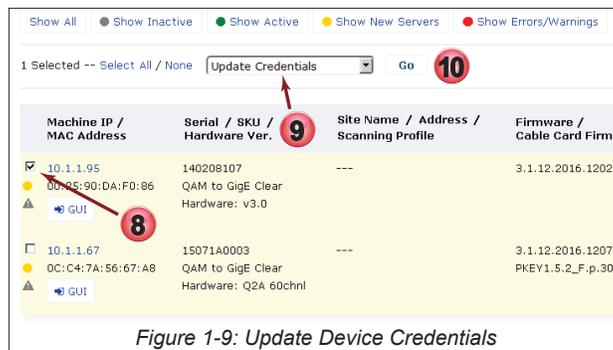

Figure 1-9: Update Device Credentials
8. To start to monitor a UCrypt Server that was added, click the tick box for that server, Figure 1-9. If multiple servers have been added, multiple servers may be started at the same time by clicking all applicable tick boxes for those servers.